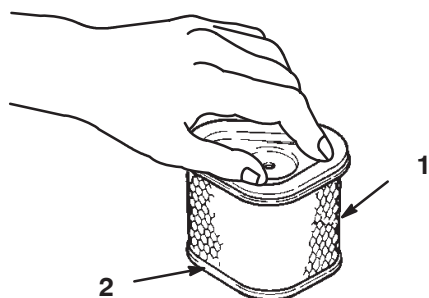

Figure 36
1. Inspect the element for tears, an oily film, and damage to the rubber seal (Fig. 36).